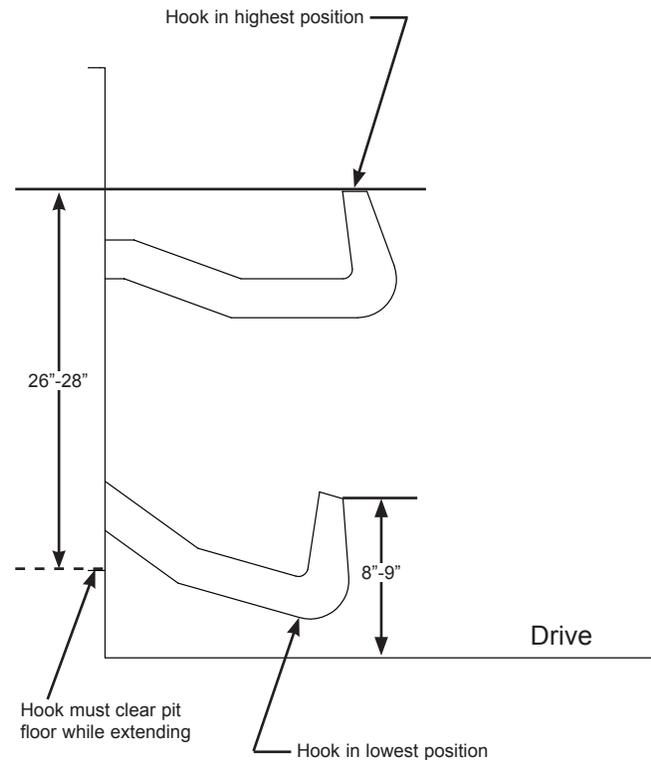

Figure 37
3. Measure upper and lower limits of operating range. In most applications, the upper and lower limits of the vertical operating range should be 26"-28" from the bottom of the pan and 8"-9" from the bottom of the drive. See Figure 37.
5. Lift up and support the PowerHook cylinder to allow the positioning cylinder to exit the trunnion. See Figure 37.